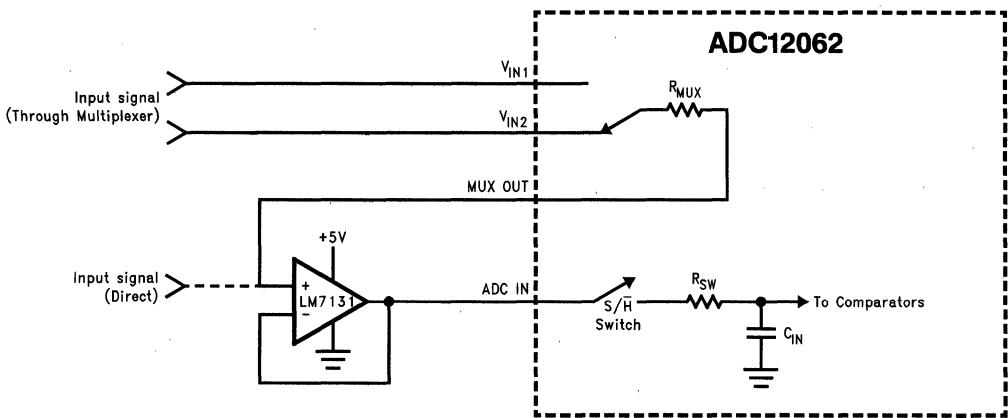

FIGURE 14. Buffering the Input with an LM7131 High Speed Op Amp
*Figure 14* shows the LM7131 driving a National ADC12062 12 bit analog to digital converter. Both devices can be powered from a single  $+5\text{V}$  supply, lowering system complexity and cost. With the lowest signal voltage limited to  $300\ \text{mV}$  and a  $3.8\text{V}$  peak-to-peak  $100\ \text{kHz}$  signal, bench tests have shown distortion less than  $-75\ \text{db}$ , signal to noise ratios greater than  $66\ \text{db}$ , and SINAD (signal to noise + distortion) values greater than  $65\ \text{db}$ . For information on the latest single supply analog-to-digital converters, please contact your National Semiconductor representative.